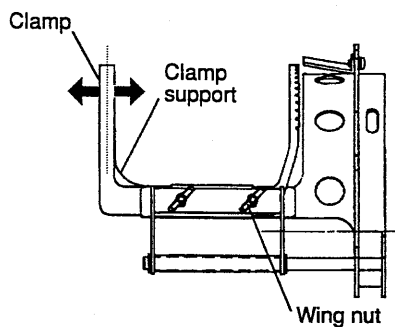

Fig. 2
- 2 Set position of clamp to clamp support to adjust. (Fig. 2)